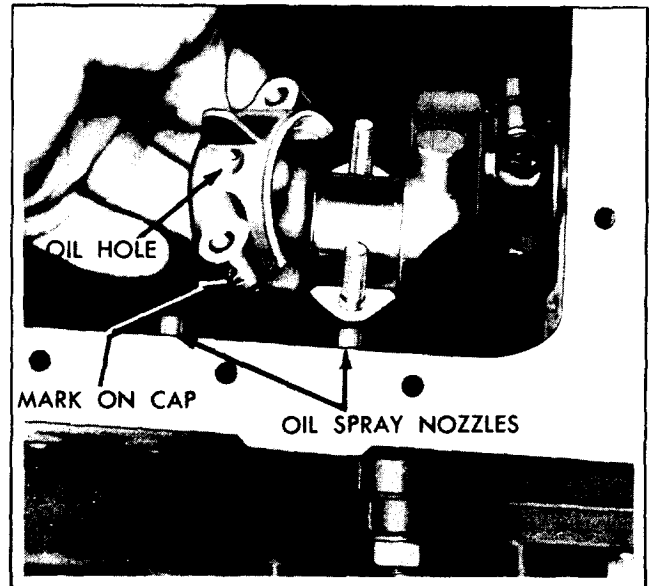

Fig. 29
**CAUTION:** Identical numbers are stamped on the side of the rod with its corresponding cap. These numbers must be on the same side of the connecting rod when mounted in engine. Be sure that *oil hole* in connecting rod cap is facing toward the oil spray nozzle, as illustrated in *Fig. 29*. Install new nuts on connecting rod bolts and *torque 22 to 28 foot pounds*.